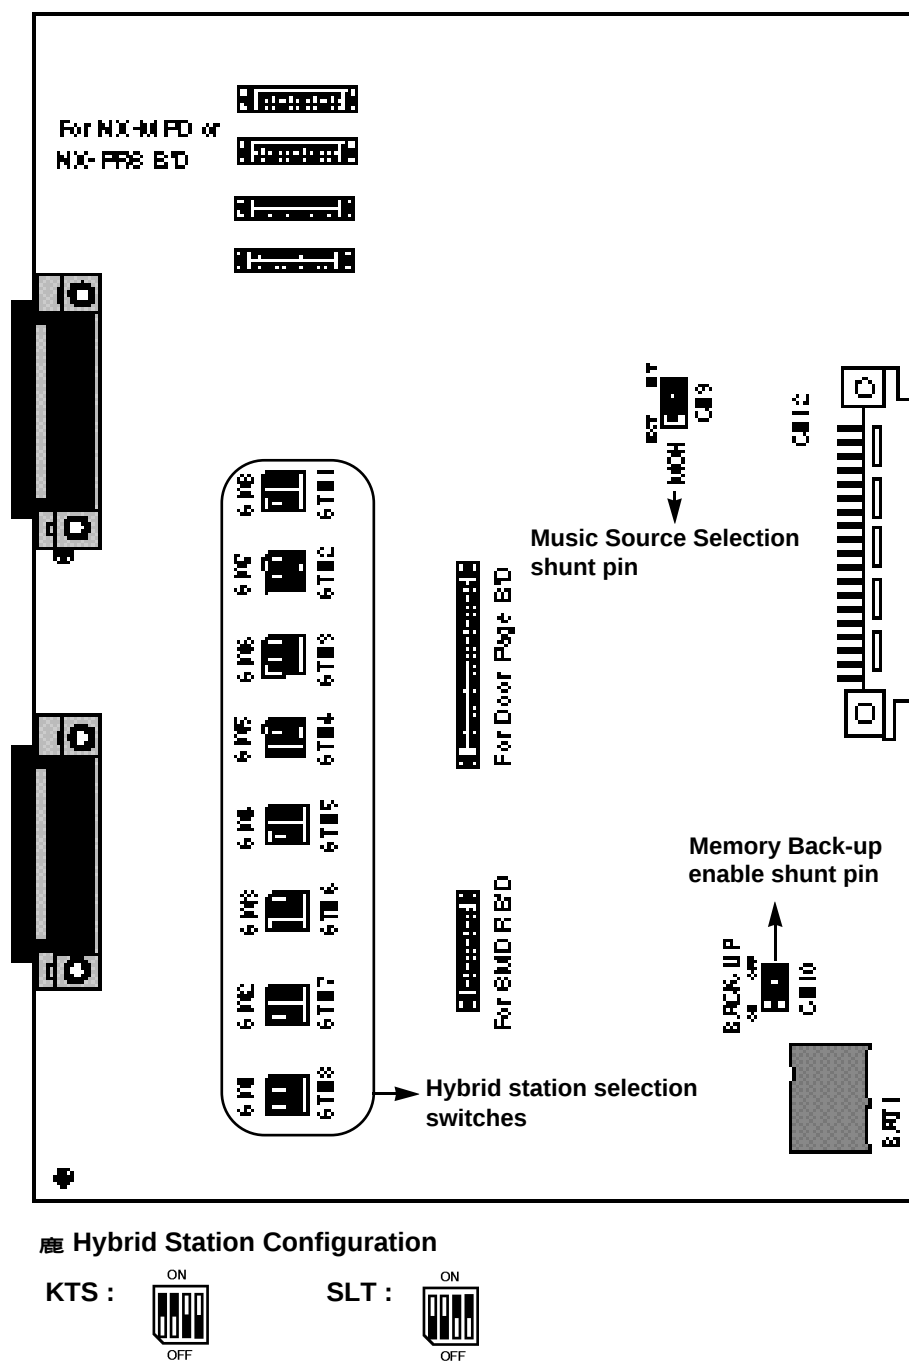

FIGURE 6-5 NX-1232 KSU SWITCH LOCATIONS
6.2.3 NX-1232 - Related Switch Location (FIGURE 6-5)